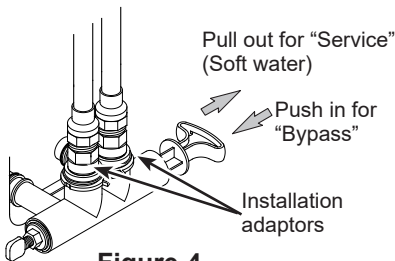

Figure 4
Always install either a single bypass valve (provided), as shown in Figure 4, or, if desired, parts for a 3 valve bypass system (not included) can be purchased and assembled, as shown in Figure 5. Bypass valves allow you to turn off water to the softener for maintenance if needed, but still have water in house pipes.
3. Place the bypass valve in "bypass" position (see Figure 4). On a single valve, slide the stem inward to bypass. On a 3-valve bypass, close the inlet and outlet valves and open the bypass valve.
8. Once the unit is in the backwash, place bypass valve in SERVICE position (see Figure 4), exactly as follows: